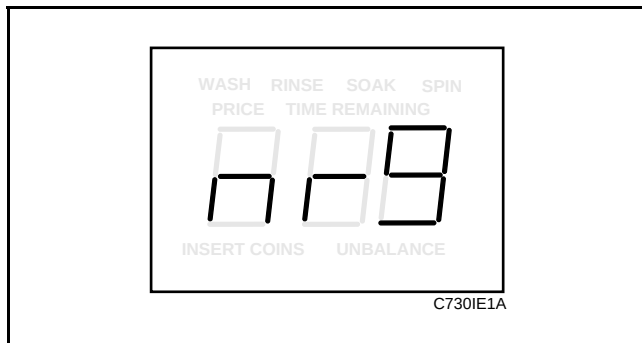

Figure 38
3. Press the DELICATES (+) pad or the COLD (-) pad to scroll through the programmable options until “nrg” appears in the VFD. See **Figure 38**.